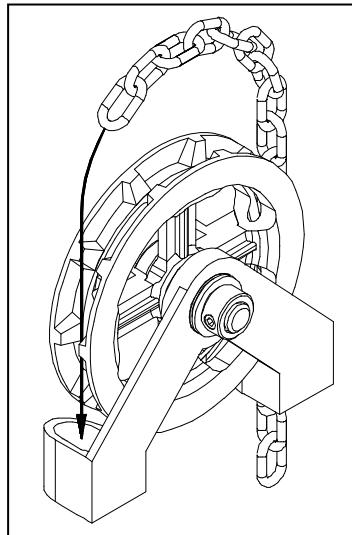

Figure 19 Installing Hand Chain On Manaras Operator
5. Opera-MH: Run hand chain through the pocket wheel and through the chain guide outside the frame (**Refer to Figure 19, Installing Hand Chain On Manaras Operator**), allow both ends to hang down toward the ground and cut hand chain, if necessary, so that both ends are approximately 2 feet (0.6 m) from floor. Connect both ends of hand chain.